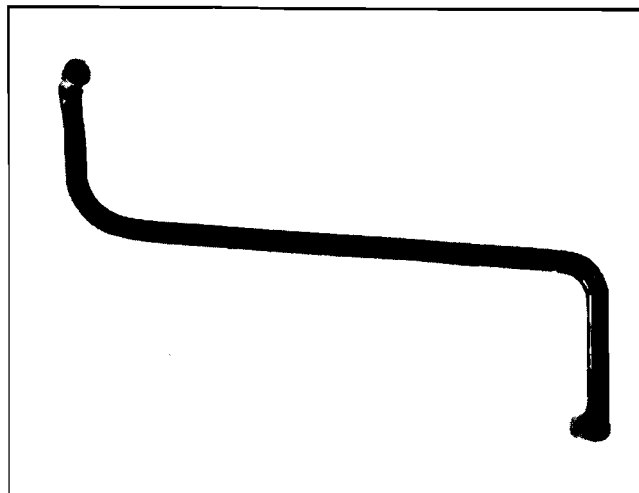

Fig. 6-61—Front Door Hinge Tool J-22810 - "A, B & C" Styles
- b. On "A, B & C" body styles, use tool J-22810 - 1/2" wrench (Figure 6-61).